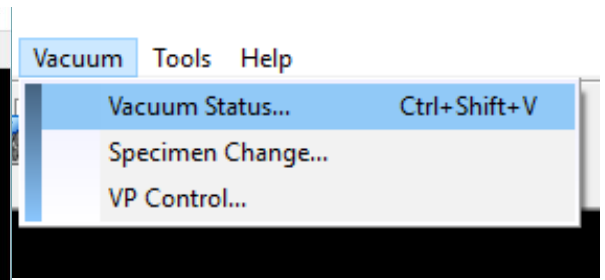

Figure 5
- Check **vacuum and vacuum status** from the interface as shown in **Figure 5**